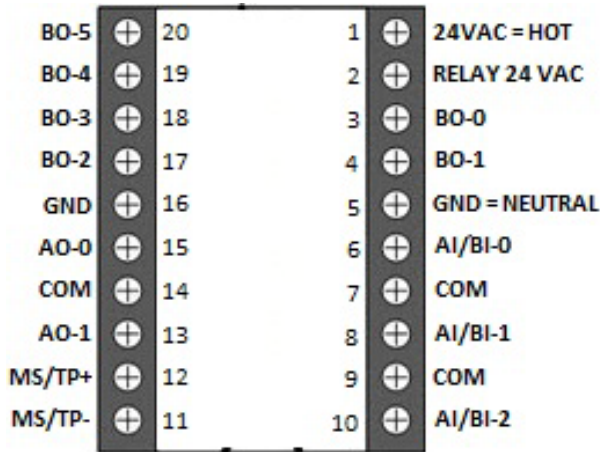

Fig. 4. Fixed Function Thermostat terminal assignments
1. Connect wires to the terminal blocks. See Fig. 4 for terminal assignments and Table 1 for terminal descriptions.